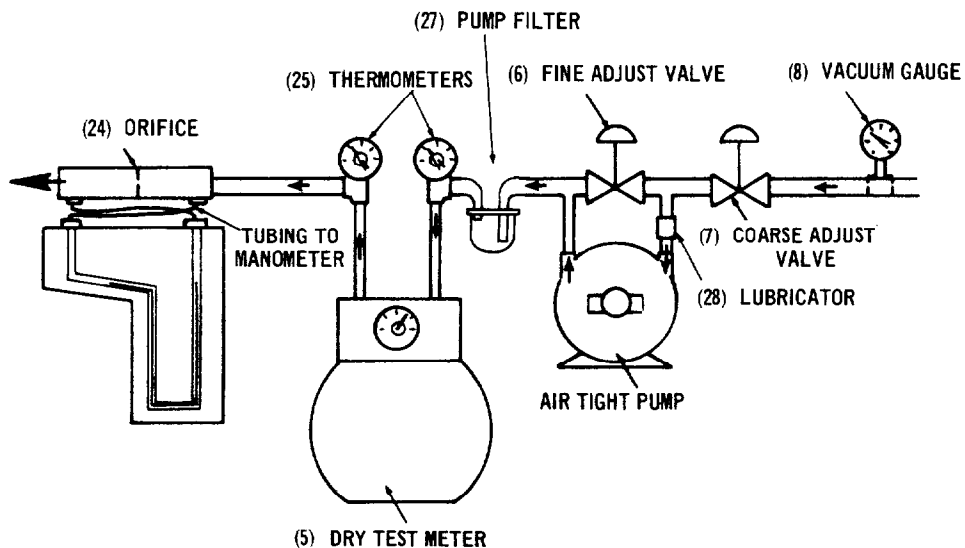
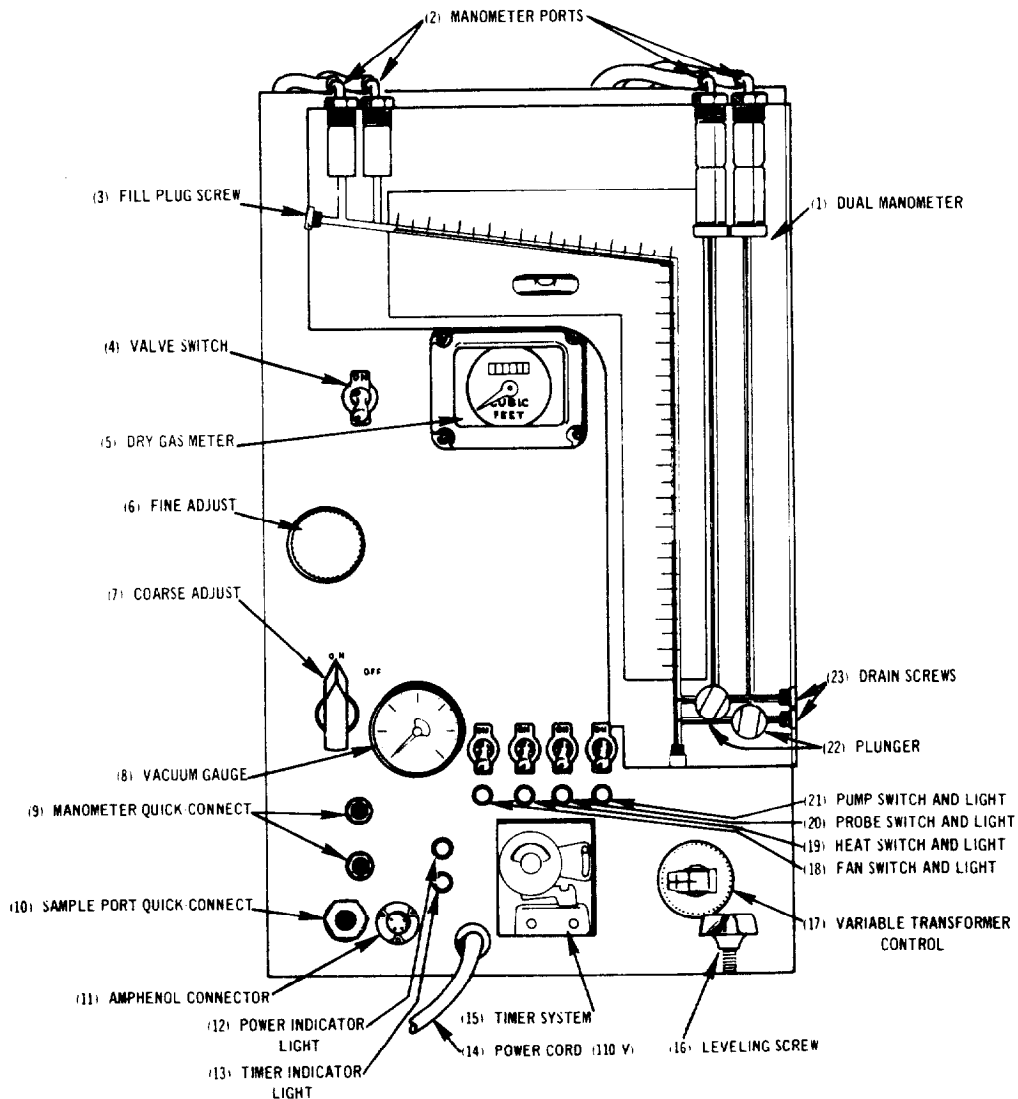
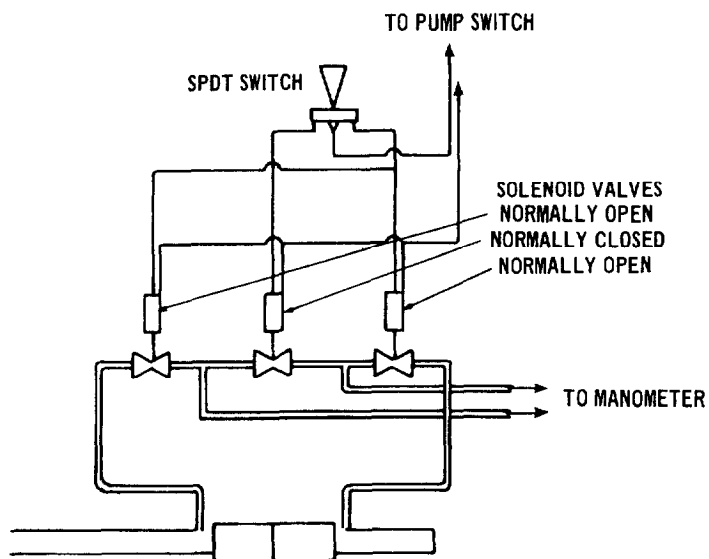

Figure 4. Pump-meter assembly.
Figure 5. Front panel of meter box.
Figure 6. Solenoid assembly diagram.
Change the pump lubricating oil (28), if dirty; fill to mark; and clean the pump filter (27). The parts are identified in Figure 4.
Wipe the quick connects (9) clean (Figure 5). A drop of penetrating oil helps keep them in good working condition.
Visually check the pitot and orifice manometer lines. They should be free of fluid. Check for leaks, especially around the fluid-level plunger (22) and drain screws (23) shown in Figure 5. Replace the fluid-level plunger or O-rings, if necessary. Wipe the dual manometer (1) clean. The back can be cleaned with compressed air or the device can be removed from the box and wiped clean. If the dual manometer is unusually dirty, clean as recommended by the manufacturer. Replace the red manometer fluid, if it is faded. Manometer fluids are color-coded: red is used for the pitot tube manometer and yellow for the orifice manometer (or a similar combination) for ease of reading in the field.
Plug the meter-box power cord into a 110-volt outlet. The power indicator light (12) should go on and a click should be heard. The click is the sound of the solenoid valves moving into the position shown in Figure 6. If the clicking sound does not occur, check the power source, plug, power cord and connections, bulb, and solenoid valve.
The valve switch (4), shown in Figure 5, operates the solenoid valve assembly, which contains three 2-way solenoid valves (Figure 6). Two are usually open and one is closed. When the valve switch is turned on, the two open valves close and the flow into the manometer is blocked and the closed solenoid valve opens to allow the pressure to equalize. This allows the manometer to be zeroed while the pump is running.
Insert a plugged male quick connect into the sample port (10), shown in Figure 5. Make sure that the valve switch (4) is off and then activate the pump. Turn the coarse-adjust valve to the on position and close fully the fine-adjust valve. The vacuum gauge (8) should read about 27 inches of mercury for a barometric pressure of 30 inches of mercury. Check the leakage rate using the reading on the dry gas meter (5) and a watch. If leakage exceeds 0.02 cubic foot per minute, find and correct the leak or leaks. Parts to check are the pump, vacuum gauge, metering valves, and pipes.
After all systems are functioning properly, calibrate the dry gas meter (5) shown in Figure 5 and the orifice meter (24) shown in Figure 4 according to the procedure in the Calibration section.